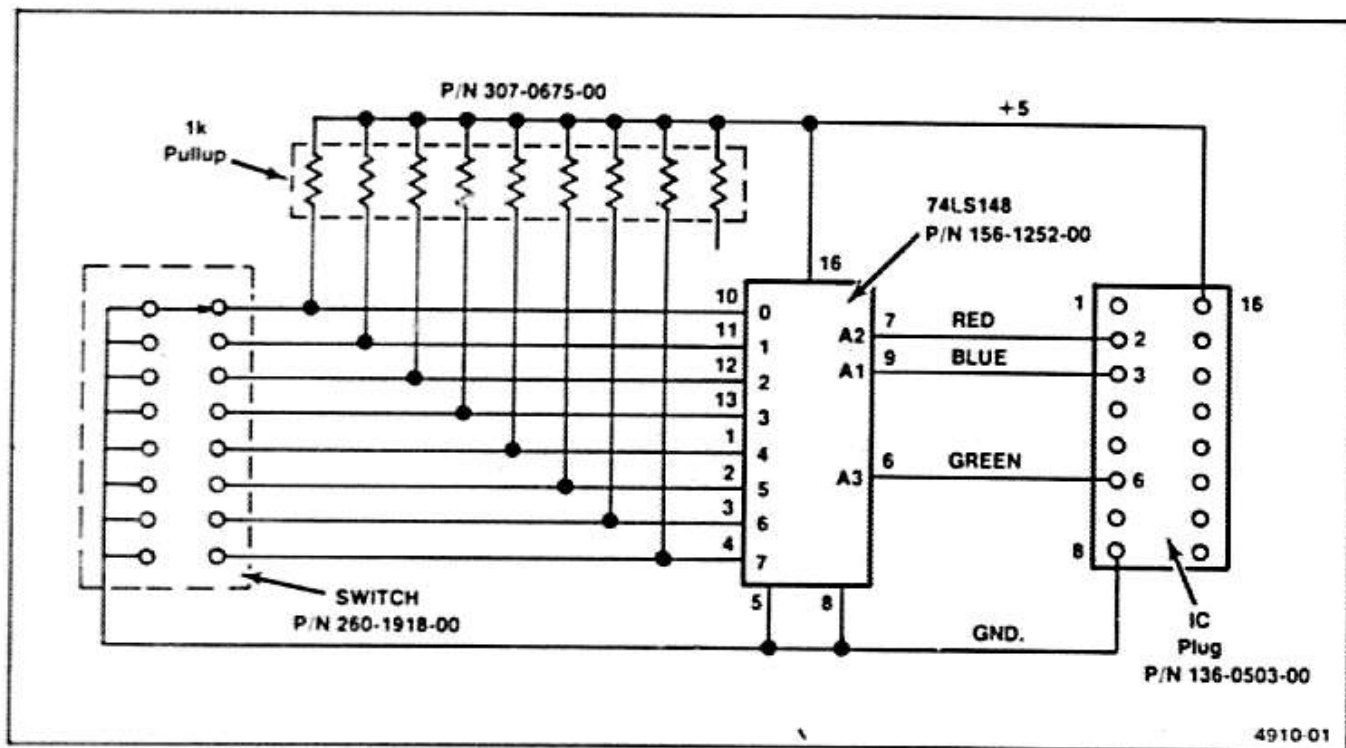

Fig. 1. Schematic Diagram For BCD Switch Box.
(see Fig. 1 for schematic and part numbers)
k. Connect the TSG21 output to the Filter, P-P Detector Head and to the Detector Amplifier (see Fig. 1). Select the Red bar with the BCD switch box.
m. Move the filter, P-P Detector and cable to the output of the Fluke 5200A (see Fig. 1). Set the output voltage for the Red U bar (see Table 4).